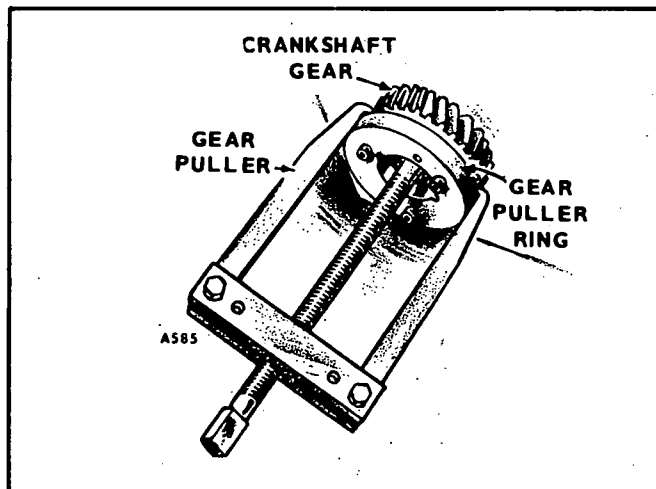

FIGURE 50. REMOVING CRANKSHAFT GEAR
2. Pull off the crankshaft gear. See Figure 50. It has 2-1/4-20 UNC tapped holes for attaching a gear pulling ring. Use care not to damage teeth if the gear is to be reused.